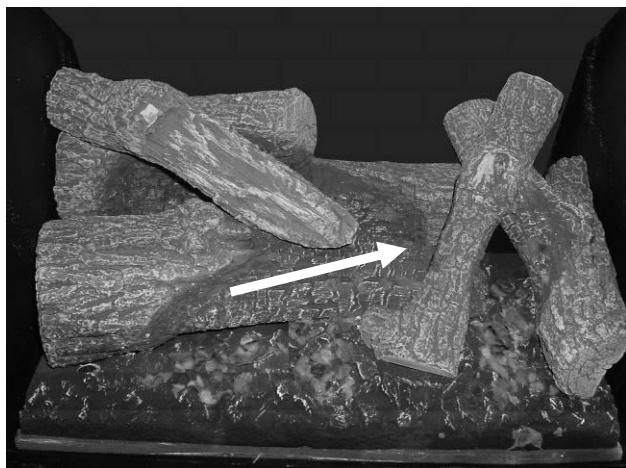

Figure 37 – Log 5 Position
6. Gently place Log 5 in the indentation on the burner and rest it on log 3 as shown in Figure 37.